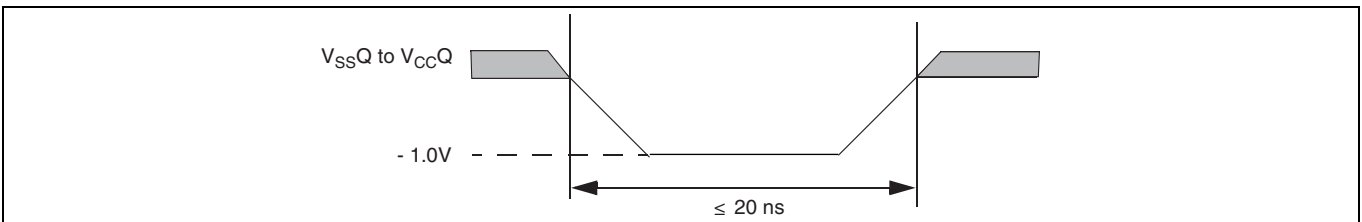
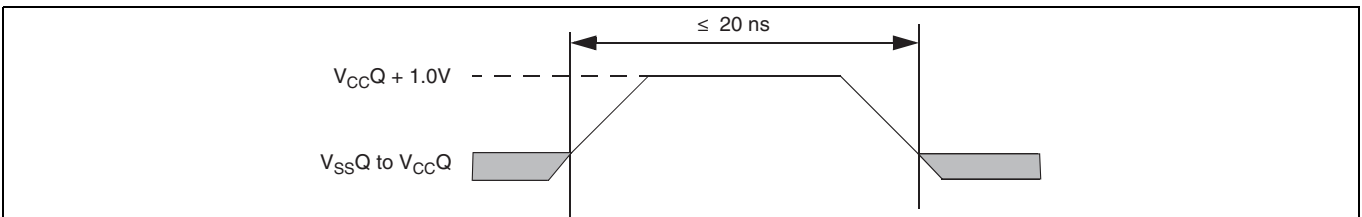

Figure 21 Maximum negative overshoot waveform
Figure 22 Maximum positive overshoot waveform
83. Minimum DC voltage on input or I/O signal is –1.0 V. During voltage transitions, input or I/O signals may undershoot V_{SS} to –1.0 V for periods of up to 20 ns. See Figure 21. Maximum DC voltage on input or I/O signals is V_{CC} + 1.0 V. During voltage transitions, input or I/O signals may overshoot to V_{CC} + 1.0 V for periods up to 20 ns. See Figure 22.